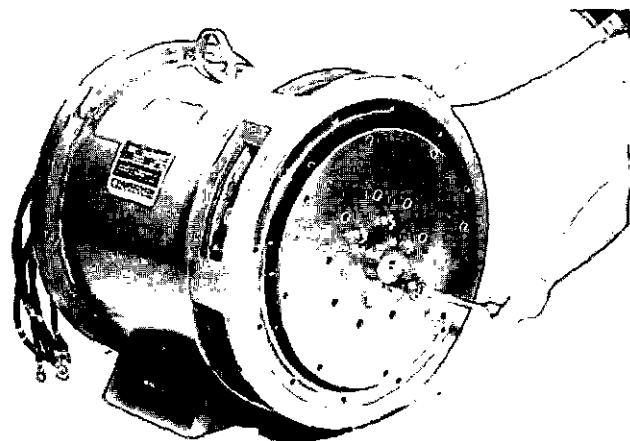

FIGURE 6-15
3. a. For single bearing generators, remove the capscrews and hardened washers holding the drive discs to the drive hub. (Figure 6-15.) Remove all drive discs (and spacers if any).